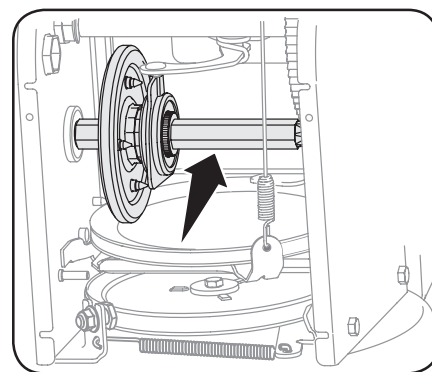

Figure 4-5
4. Apply a light coating of Bostik Regular Grade Never-Seez® to hex shaft. See Figure 4-5.